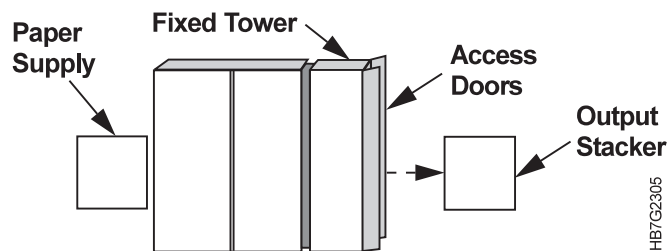

Figure 274. Right Side View of the InfoColor 70
- 1 Move the output stacker away from the fixed tower and open the access doors of the fixed tower, as shown in Figure 274.